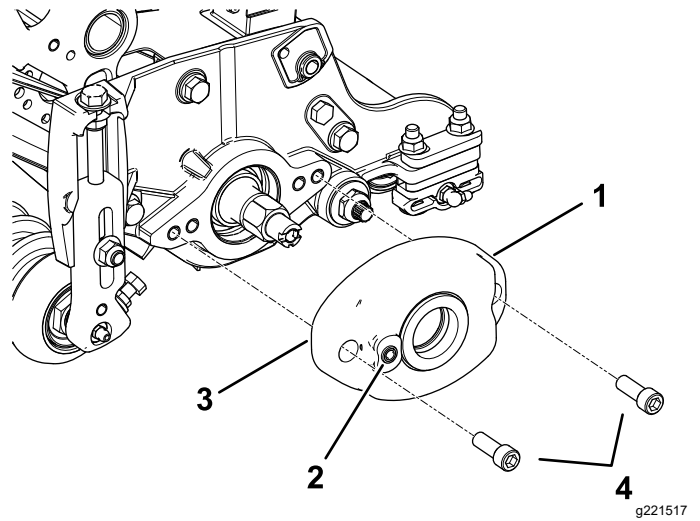

Figure 5
2. Mount the roller-brush housing to the reel bearing housing with 2 socket-head bolts (3/8 x 1 inch) as shown in Figure 5. Position the roller-brush housing so that the threaded hole is toward the front of the cutting unit.